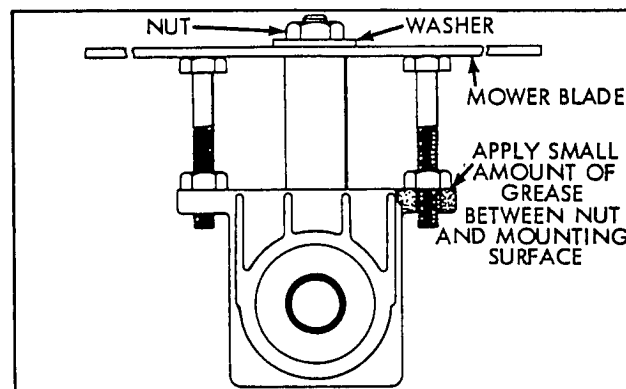

Figure 9-4 Driven Bevel Gear Removal
- (e) Right angle units with the driven bevel gear at the top will have to be disassembled as illustrated in Figure 9-4. The output shaft is larger in diameter inside than outside. When the output shaft is pulled out the bearing will also be removed.